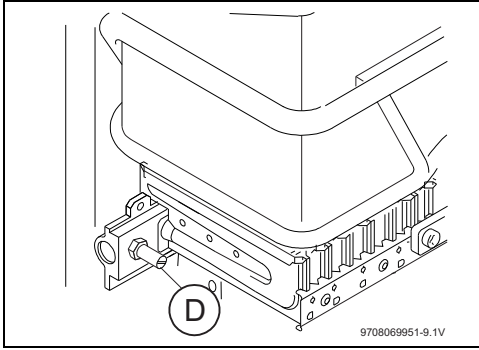

Fig. 10 Burner pressure test point
- ▶ Loosen the burner test point captive screw (→ Fig. 10 [D]).